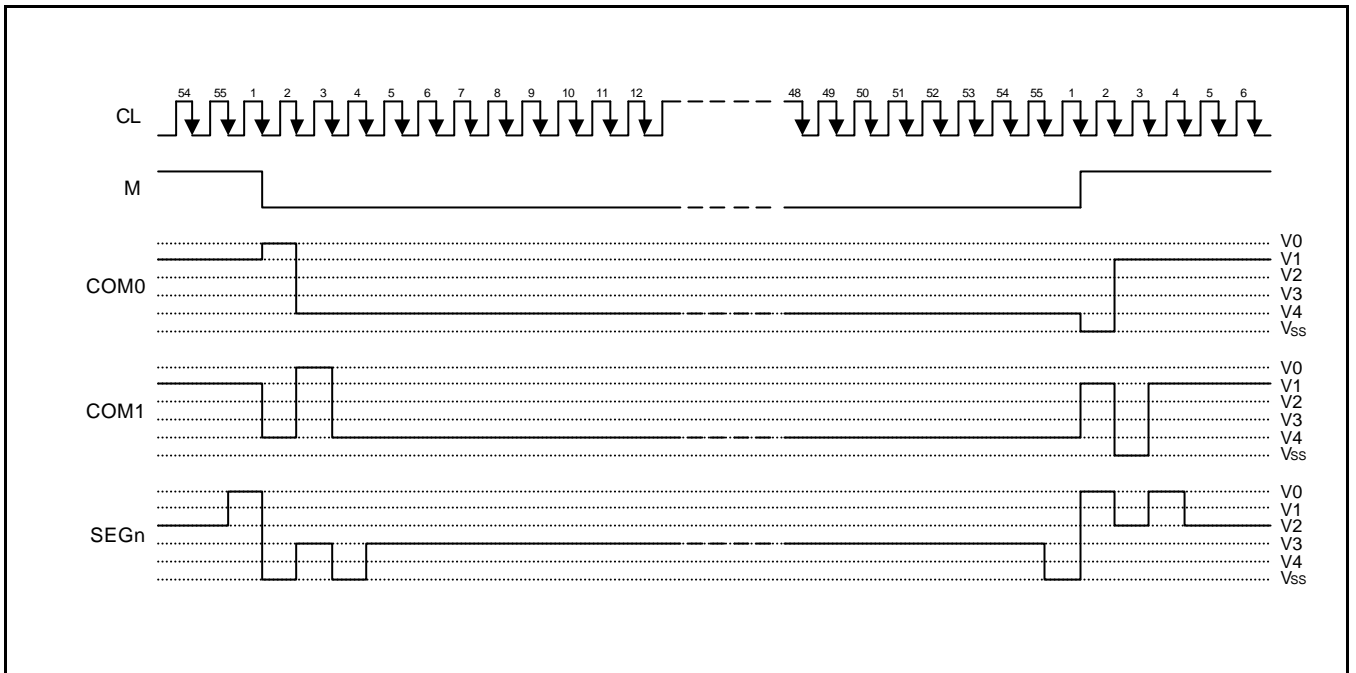

Figure 14. 2-frame AC Driving Waveform (Duty Ratio = 1/55)
This circuit generates some signals to be used for displaying LCD. The display clock, CL, generated by oscillation clock, generates the clock for the line counter and the signal for the display data latch. The line address of on-chip RAM is generated in synchronization with the display clock (CL) and the 100-bit display data is latched by the display data latch circuit in synchronization with the display clock. The display data, which is read to the LCD driver, is completely independent of the access to the display data RAM from the microprocessor. The display clock generates an LCD AC signal (M) which enables the LCD driver to make a AC drive waveform, and also generates an internal common timing signal and start signal to the common driver. Driving 2-frame AC driver waveform and internal timing signal are shown in figure 14.